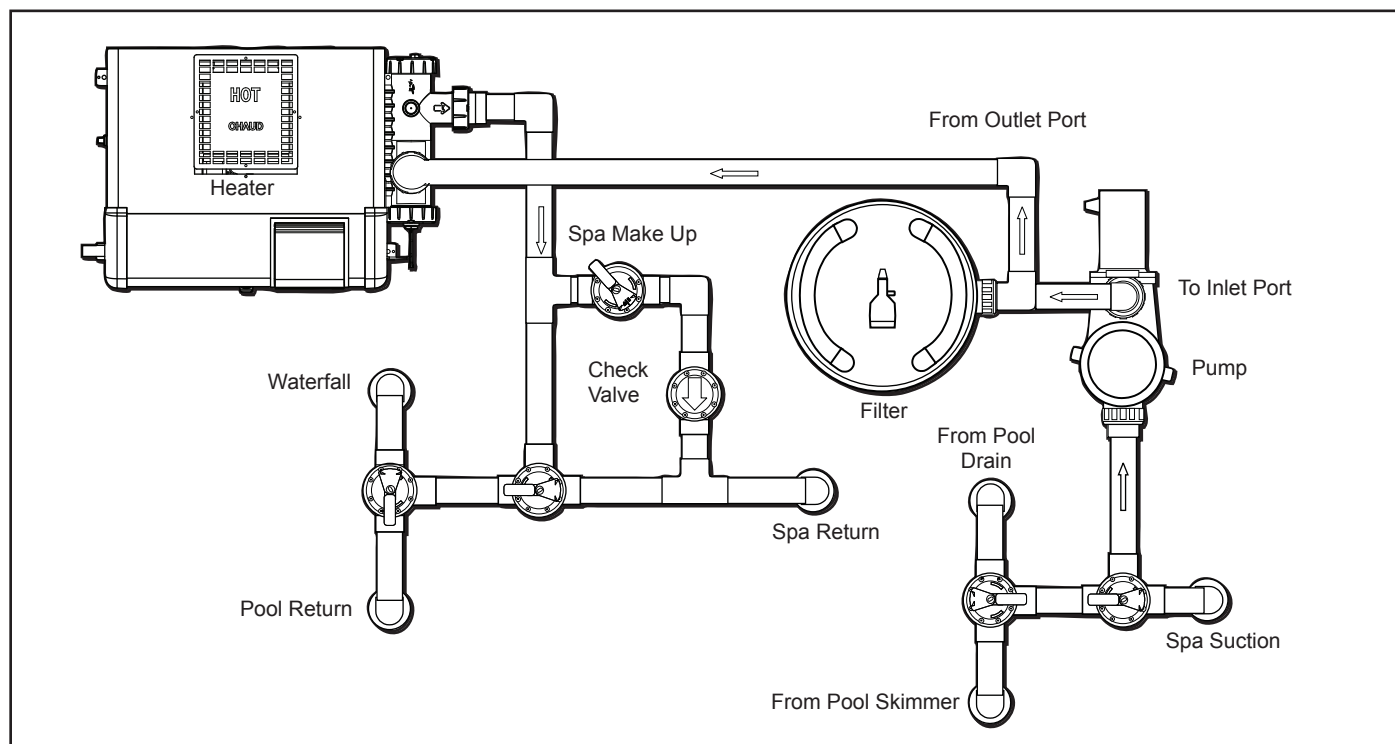

Figure 4. Basic Pool/Spa Combination Plumbing
3. Place the filter on the concrete pad, lined up with the inlet/outlet pipes, see Figure 4. **Remove the shipping screw.**